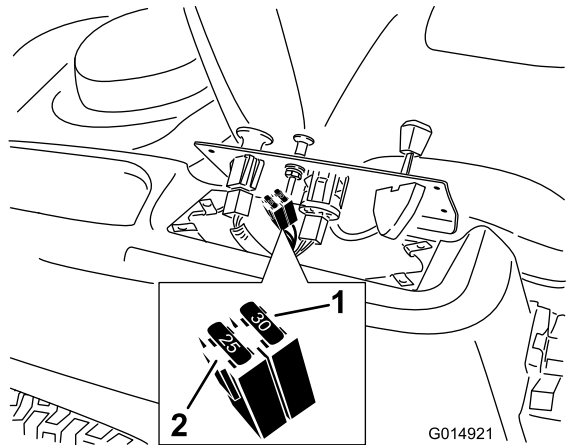

Figure 55
- Lift the control pane up to access the main wire harness and fuse block (Figure 55).
- To replace a fuse, pull out the fuse to remove it (Figure 55).